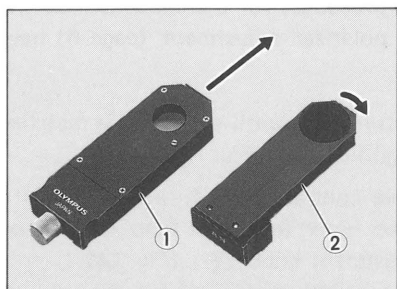

Fig. 16
- 1) Push out the analyzer plate ② to remove it from the DIC attachment ① in the direction as shown by the ARROW. (Fig. 16)
- 2) Rotate the analyzer clockwise until it stops. (Fig. 16)
- 3) Reattach the DIC attachment ① that was removed the analyzer plate to its original position.